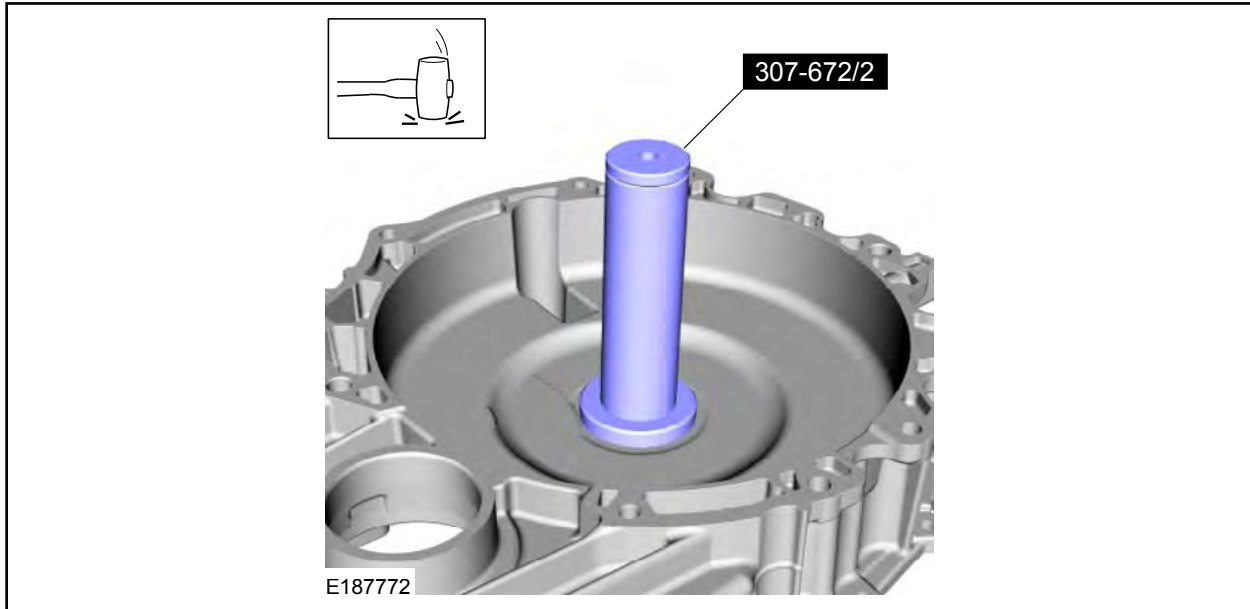

FIGURE 33
28. Using the special tool, install the *new* input shaft oil seal. See Figure 33.